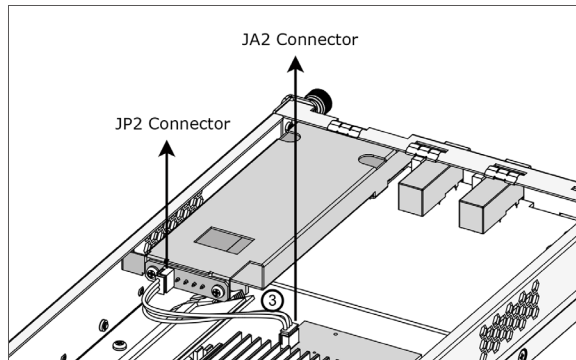

Figure B-8, Connecting to Battery
4. Use the cable in the BBM package (reference NO.3 in Figure B-3) to connect the **JA2** (3-pin box header battery connector on the ARC-8006-2 control module) to the **JP2** (on the Battery Pack backplane connector back), as shown in Figure B-8.